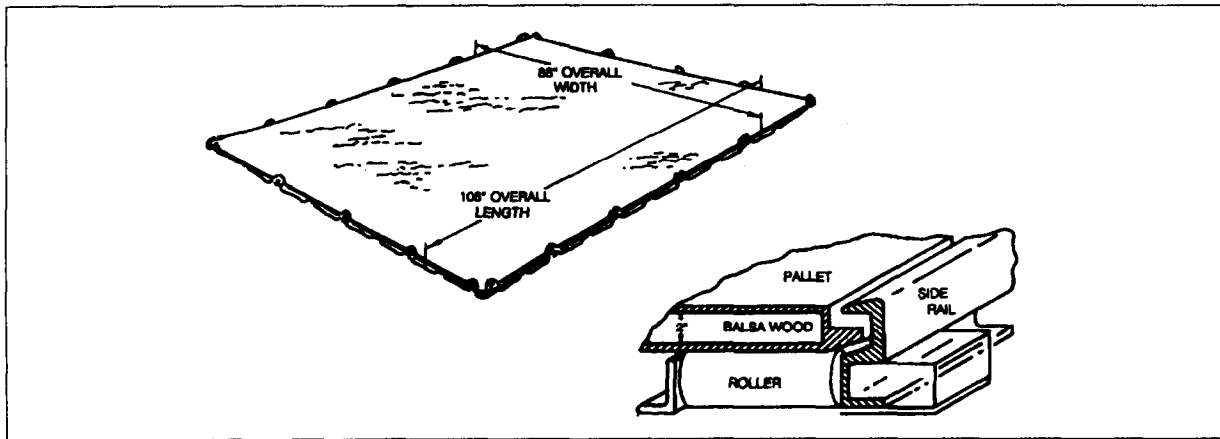

FIGURE 4-2. 463L Master Pallet.
a. **Construction.** The 463L master pallet (Figure 4-2) is made of corrosion resistant aluminum with soft wood core and is framed on all sides by aluminum rails. The rails have 22 steel tie-down rings attached in such a manner that there are six rings on each long side and five rings on each short side. The rails also